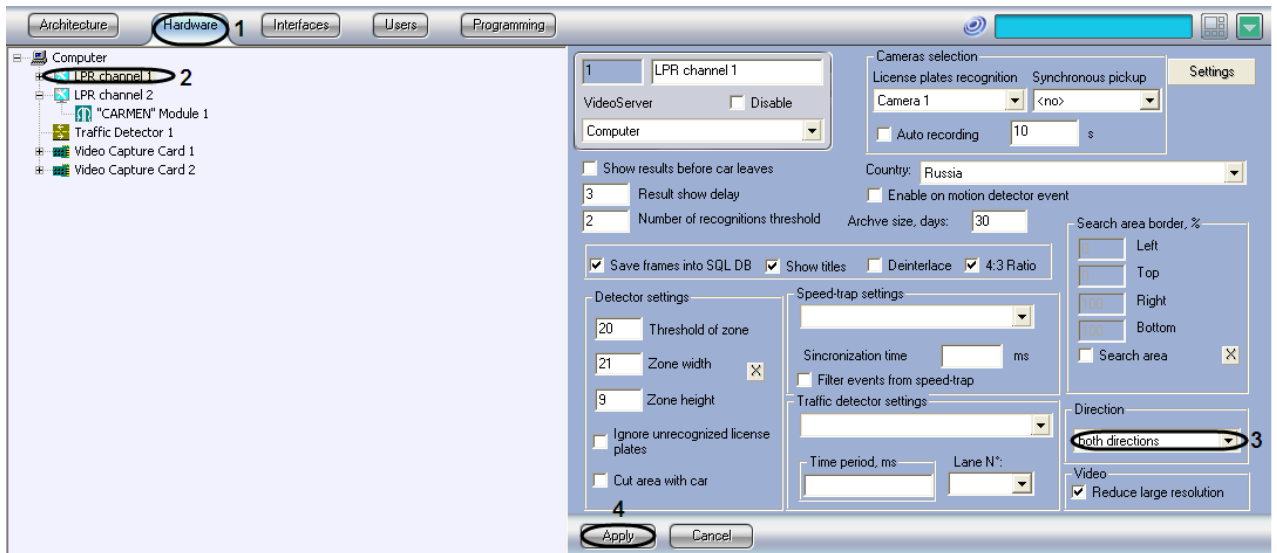

Fig. 7.2-24 Selecting the movement direction of the vehicles to be recognized
2. In the object tree on the left side of the Hardware tab, select the LPR channel, corresponding to the activated Auto-Uragan3.3.5.18 program module in the objects tree on the Hardware tab (see. «Program module activation, used for Plates identification»). The settings panel of the selected object will open on the right side of the window (Fig. 7.2-24).